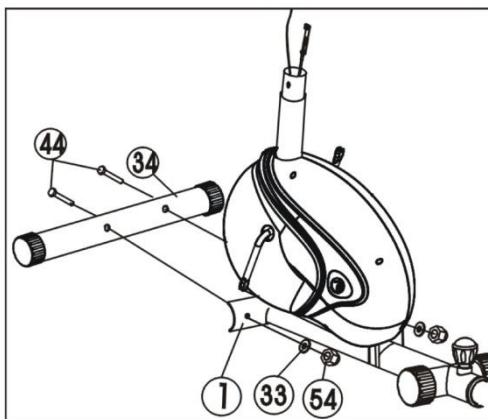

Figure 1
Attach the Front stabilizer (34) to the Mainframe (1) with two pcs of M8X55 Bolts (44), 2pcs of $\Phi 8$ Arc washer (33), and 2 pcs of M8 Cap nuts (54). (Refer figure 1)